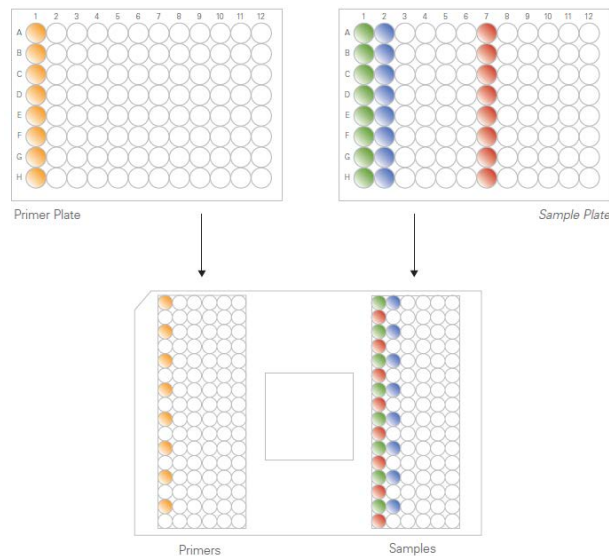

Figure 3 Loading of primers and samples to the 96.96 Dynamic Array IFC
- 5.4.10. Gently remove the Primer Plate sealing to avoid contamination between wells; transfer 5  $\mu$ L from each well of the Primer Plate to the primed 96.96 Dynamic Array IFC by using reverse pipetting; change pipette tips after each primer; Primers are loaded into their respective inlets on the left side of the chip according to Figure 3
- 5.4.11. Transfer 5  $\mu$ L from each well of the Sample Plate into the inlets on the right side of the chip according to Figure 3 by reverse pipetting; change pipette tips after each sample; See Figure 3 for a detailed instruction on sample loading